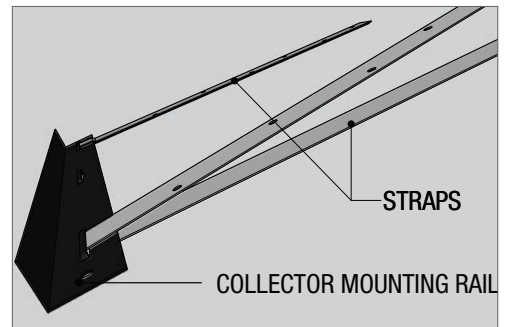

Fig 1
To Tiled Roofs (Fig 1 & 2)
- a. Fold stainless steel bottom straps in half feed through the eyelets on the black collector rail with suitable spacing (Fig 1).
NOTE: If a batten is not in a suitable position use the straps provided and feed through collector mounting rail (Fig 1) and fasten straps to a suitable roof batten through the roof sheeting.